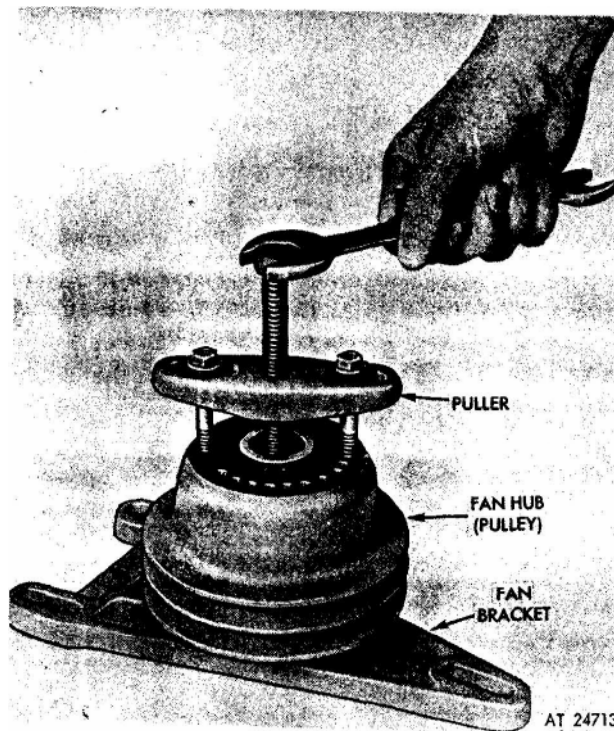

Figure 1. Removing fan hub (pulley).
2. Remove the fan hub from the shaft with a puller as shown in figure 1.